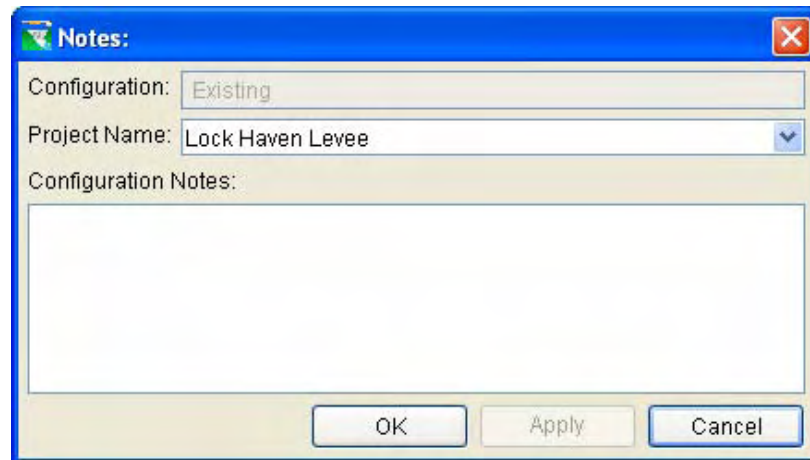

Figure 6.11 Configuration Notes for Levee
2. From the shortcut menu, select **Configuration Notes**. This command opens a dialog box (Figure 6.11) for entering text information about a project that is specific to the configuration.